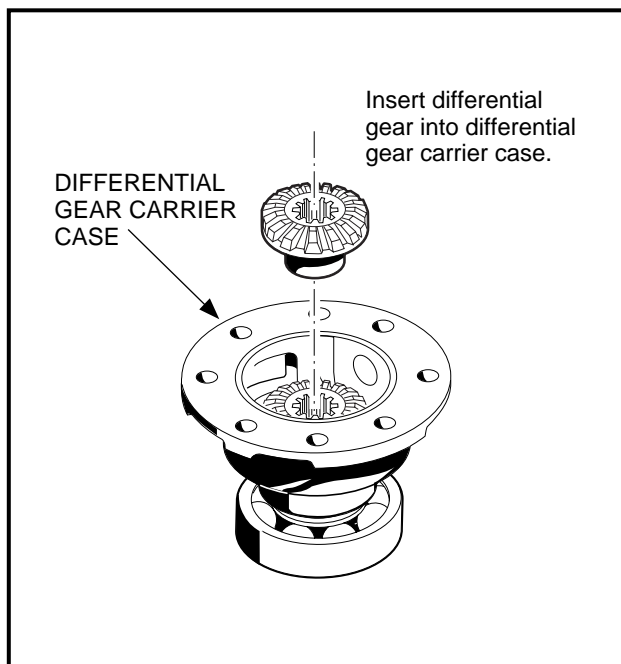

Figure 16-61 Differential Gear
2. Install differential gear (91) into carrier case (84) (**Figure 16-5, Page 16-4**) as shown (**Figure 16-61, Page 16-26**).